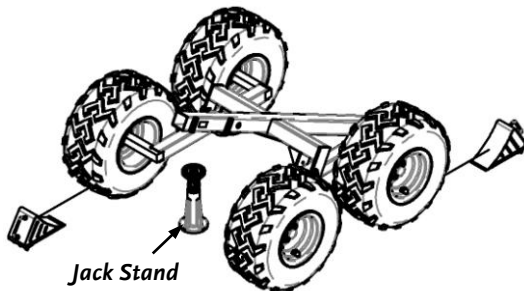

Figure 11
7. Place a Jack Stand under the front of the Main Frame, which should naturally be tipped backwards (Figure 11). Also place one wheel chock in front of one of the Front Wheels and one wheel chock behind one of the Rear Wheels to ensure the Trailer will not roll on you during assembly.